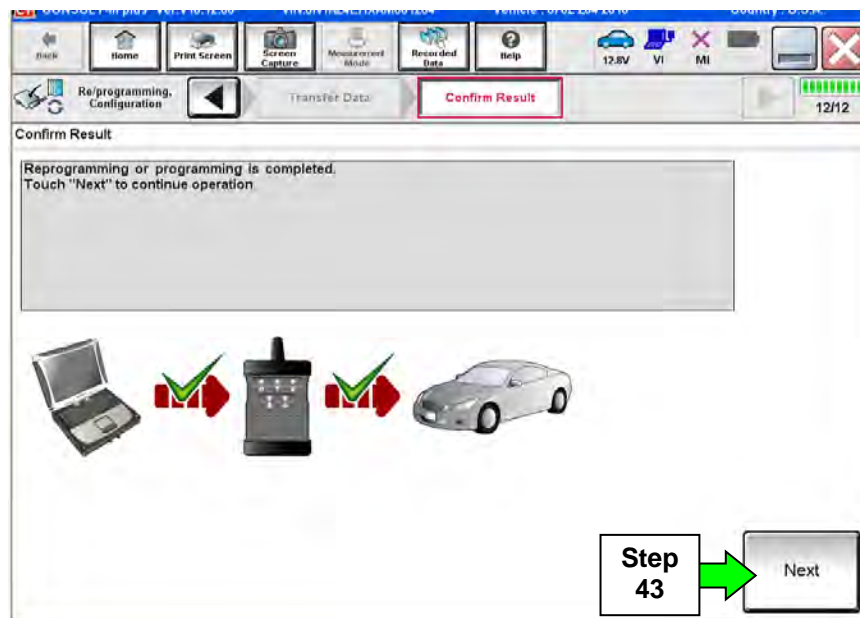

Figure 22
41. When the screen in Figure 22 displays, the reprogramming is complete.
NOTE: If the screen in Figure 22 does not display (which indicates reprogramming did not complete), refer to the information on the next page.